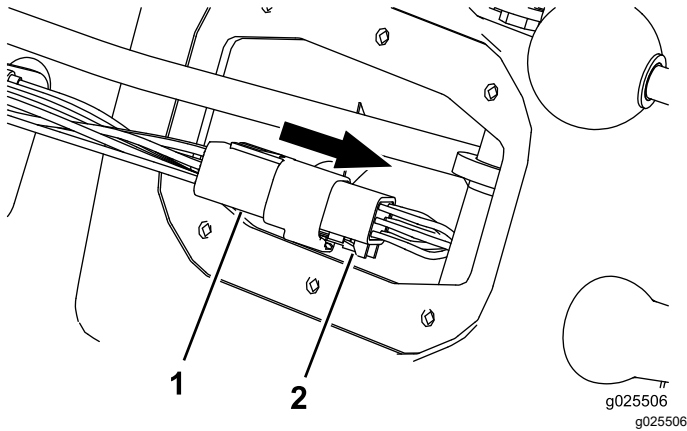

Figure 12
1. Unplug the shift-indicator connector from the machine harness (Figure 12).